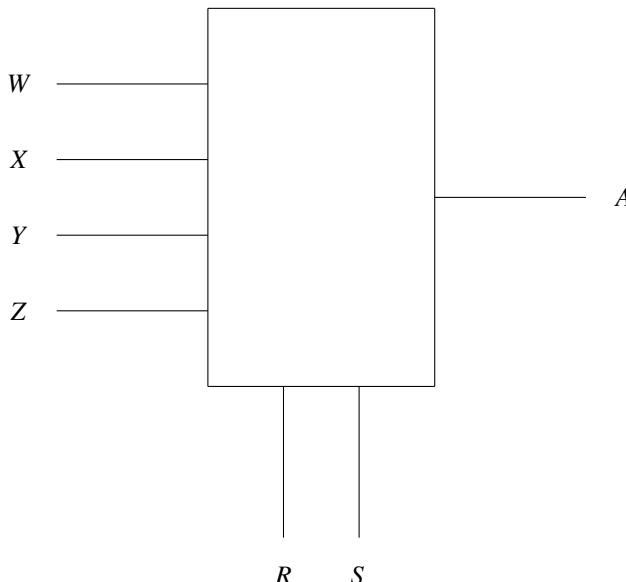

Fig. 4.12
25. Consider the 2-bit multiplexer(MUX) shown in Fig. 4.12. For output to be the XOR of R and S, the values for W, X, Y and Z are ?